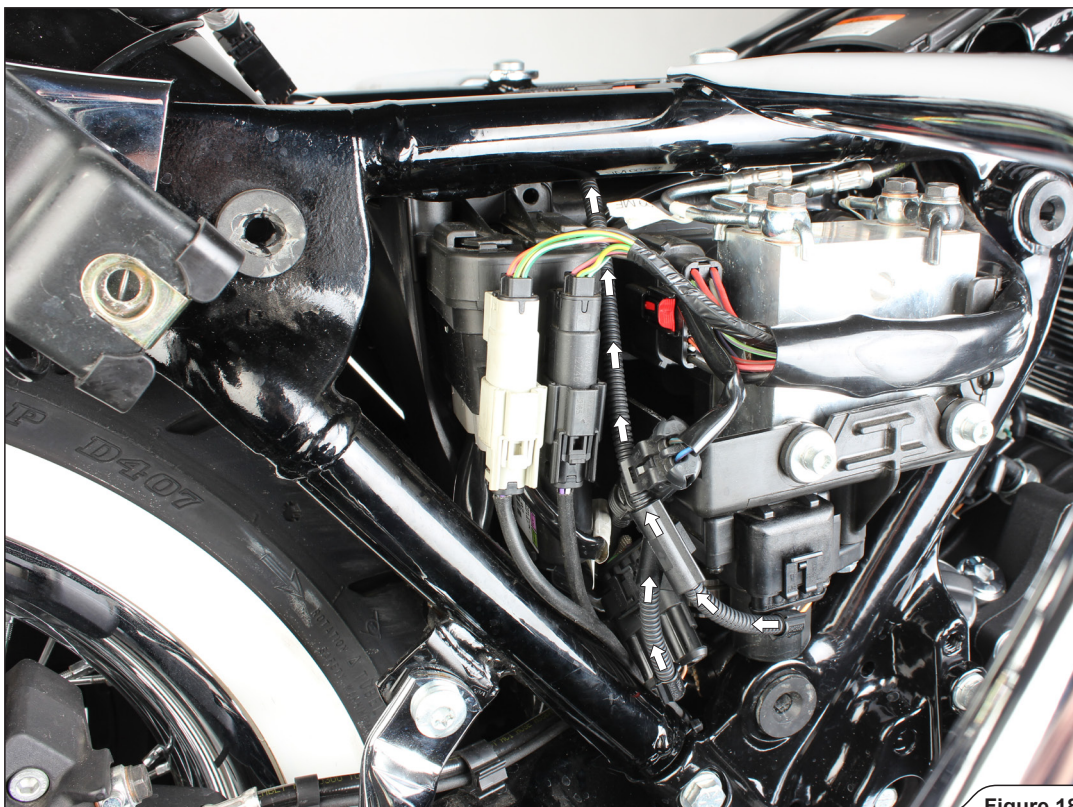

Figure 18
5. Connect the Sound Receiver and wiring harness to the servo motor and stock wiring harness. Install the Akrapović wiring harness and Sound Receiver as shown; secure the Receiver using zip ties from Akrapović installation kit (Figure 18, 19).